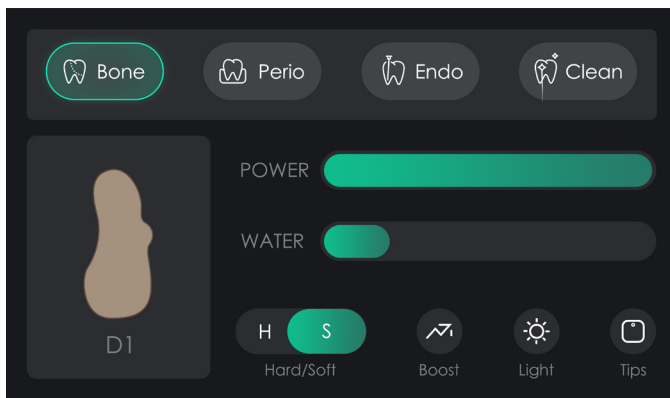

Fig9
As shown in Fig. 9, when the mode name "Bone " is selected in the green frame, the device is in bone cutting mode;In this mode, there are "power" and "water volume" that can be adjusted by sliding;Among them, the "power" in the 1~10 levels respectively correspond to the bone density pictures "D4~D1" on the left. In this interface, there is also the "H/S" key to switch the bone cutting depth: Surface cortical bone and deep cancellous bone;There is an "enhance" button, which can increase the current power by 30% with one button, which is convenient for efficiency improvement;There is a "light" button, which can switch the LED light on the handle;There is a "Settings" button for system settings and function introduction.
7.2.2 PERIO function (Fig.9)